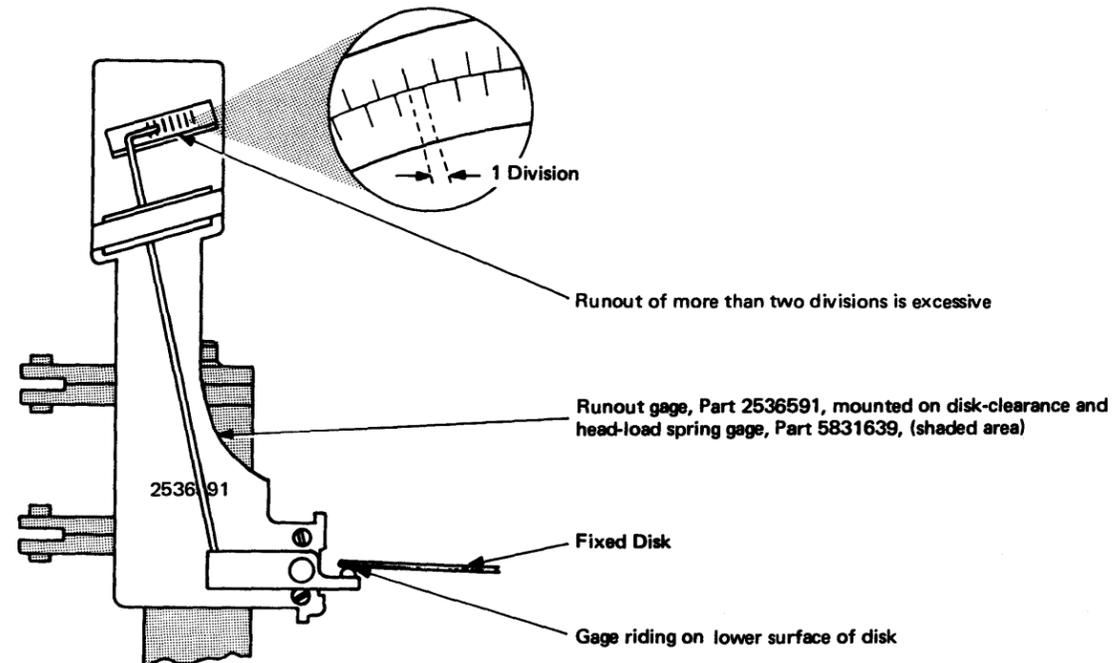

Figure 2-14. Disk Height and Runout Checks - Fixed Disk [07539]
3. Mount disk-clearance and head-load spring gage, part 5831639, on machined pad (Figure 2-14) near the head entry port, with gage fingers turned towards the layshaft. Secure tool with captive screw in hole vacated by head cable clamp pillar.
7. Clip runout gage, part 2536591, on to pillar of disk-clearance and head-load spring gage below the 02 and 03 fingers. See Figure 2-14. Adjust height of runout gage so that its arm rides on lower surface of disk with the pointer at mid-scale.